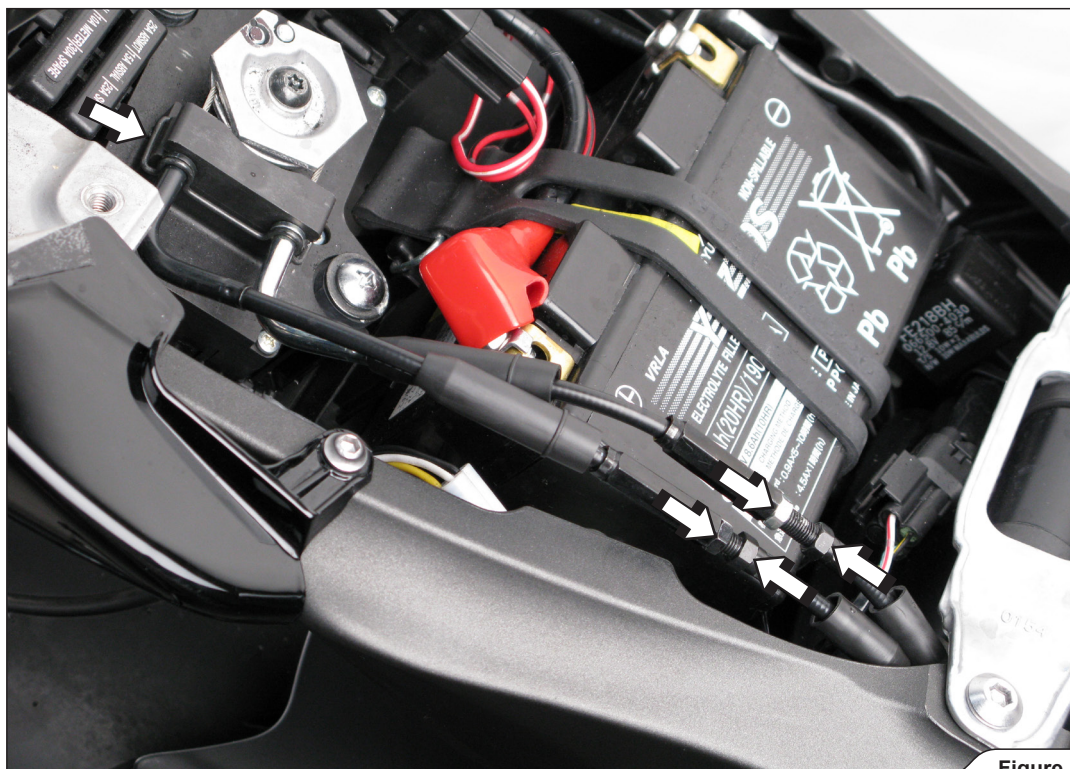

Figure 5
5. **For optional link pipe only:** shorten the cable adjusters, remove the safety pin and cables off the servo motor (Figure 5).